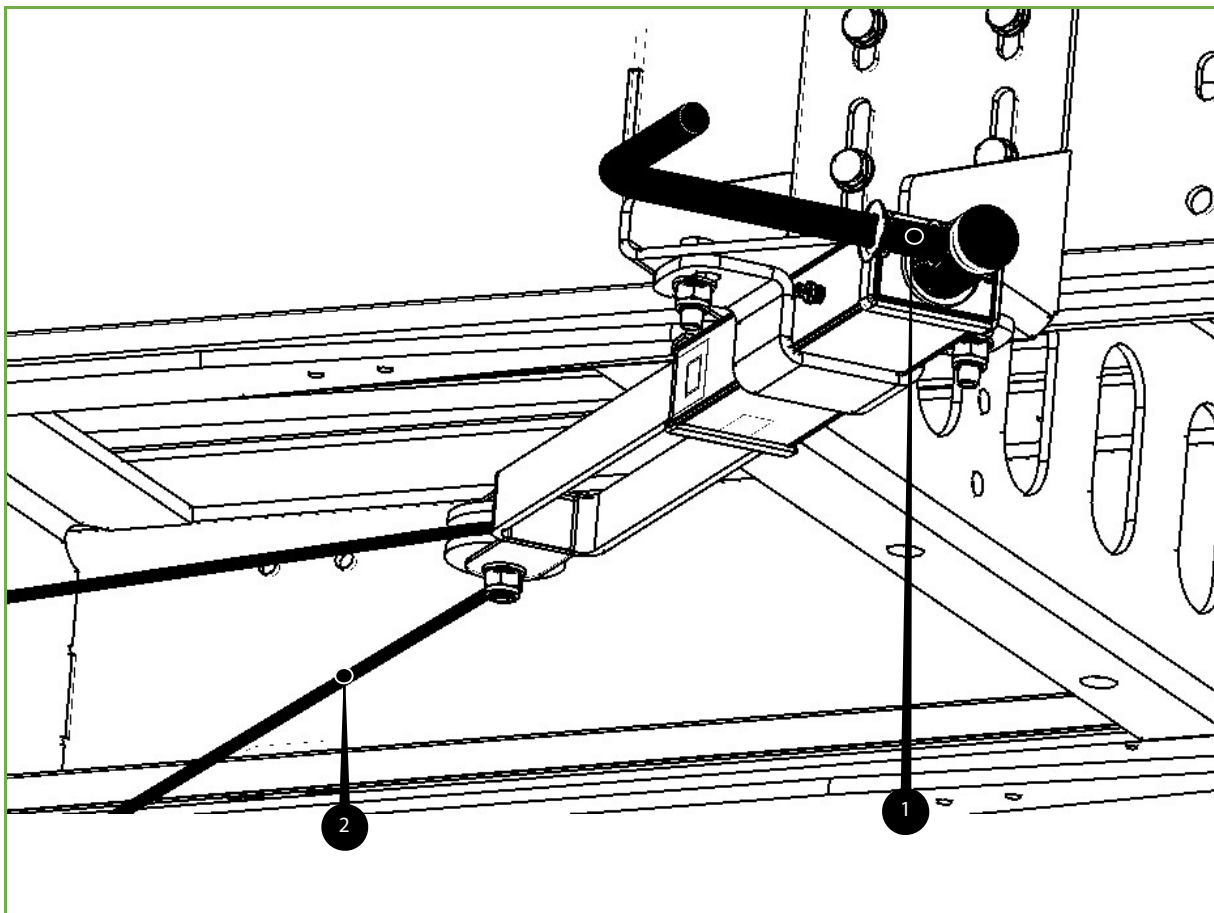

Figure 7-8: Spindle-type handbrake
6. Turn the spindle [1] of the handbrake fully counter-clockwise until it can go no further. The brake cable [2] is then released and the brakes are inoperative. Please refer to Figure 7-8.
4. Turn the spindle [1] of the handbrake fully counter-clockwise until it will go no further. The brake cable [2] is then released and the brakes are inoperative. Please refer to Figure 7-8.
5. Turn the spindle [1] of the handbrake fully counter-clockwise until it will turn no further. The brake cable [2] is then released and the brakes are inoperative. Please refer to Figure 7-8.